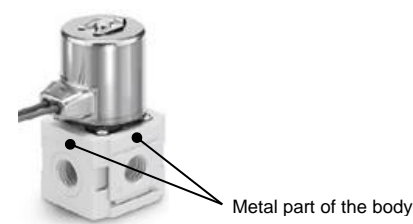
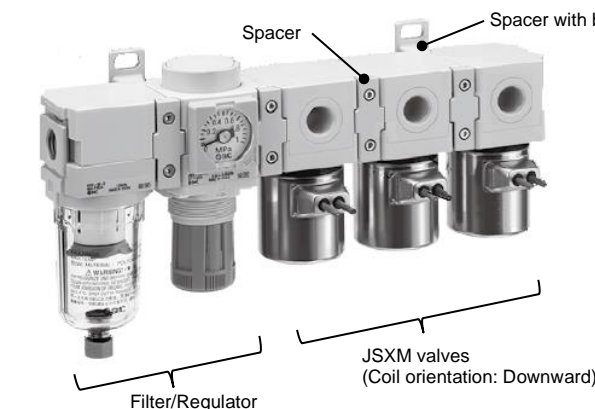
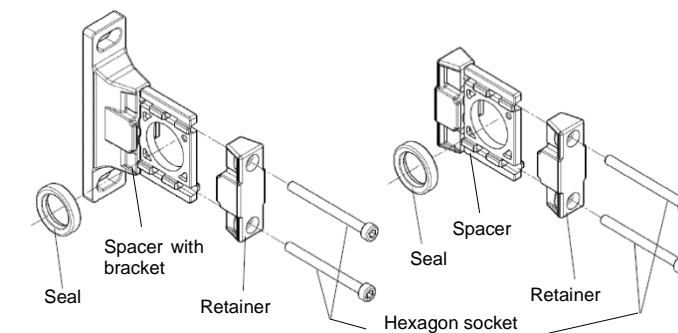

Figure 1. Clamp area of valve
Figure 2. Modular assembly example
Figure 3. Spacer with bracket and spacer
- When connecting piping/fitting to the valve, clamp the metal part of the body with a vise, etc. See figure 1.
The JSXM valves can be individually mounted (figure 1) or assembled in a modular form (figure 2) using the connection spacers (figure 3).
- A spacer or spacer with bracket is used to combine 2 modules, see figure 2 and Table 4.